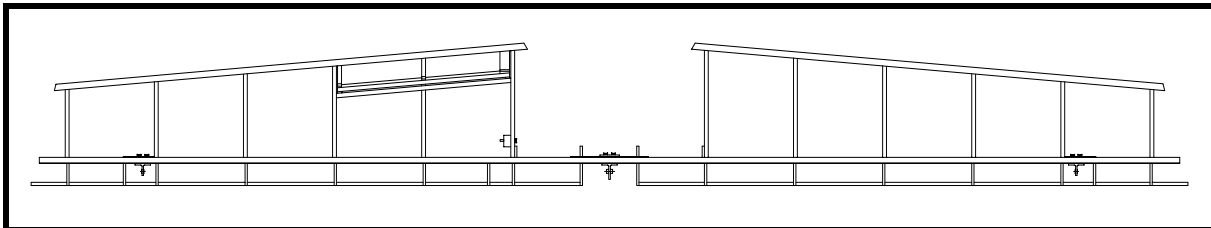

Figure 7
- ❑ Install the elevator trailing edge strip. See Figure 7.